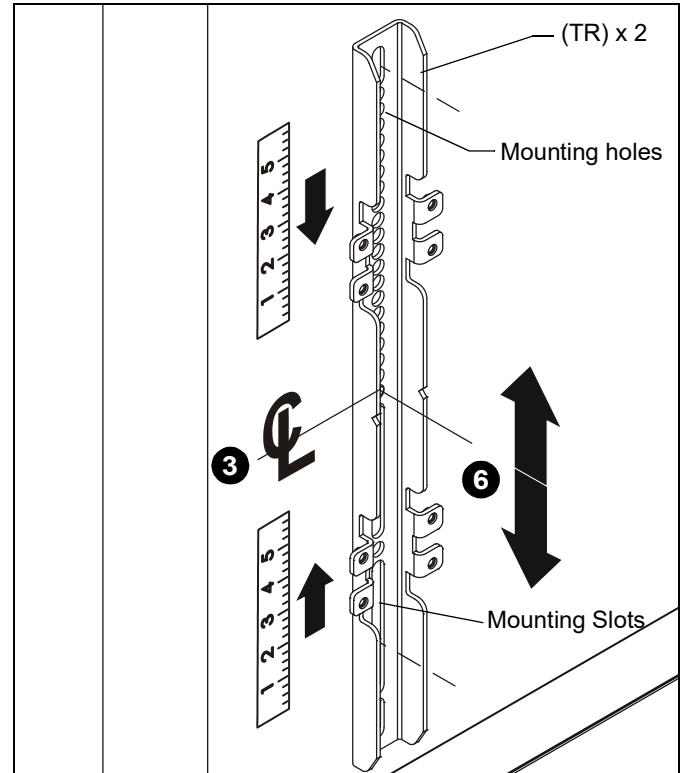
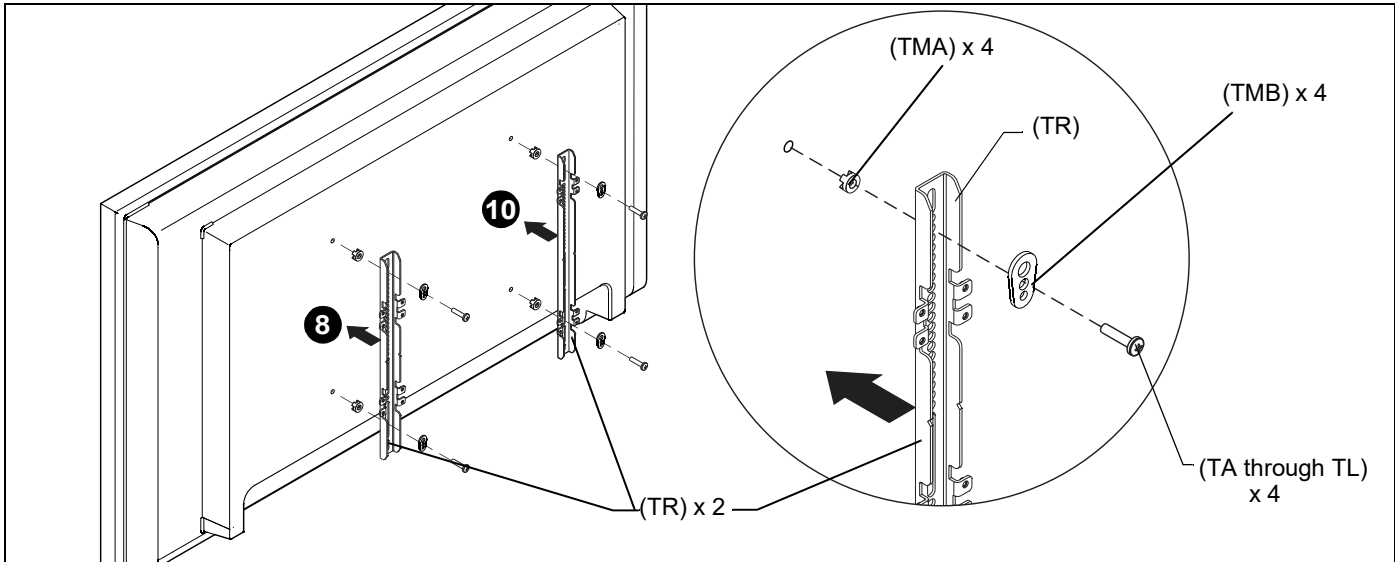

Figure 14
Figure 16
3. Determine and mark the vertical center position between the Left side Upper and Lower mounting holes in display. (See Figure 14)
4. Determine and mark the vertical center position between the Right side Upper and Lower mounting holes in display. (See Figure 14)
5. Orient vertical mounting bracket (TR) so that mounting holes are on top and mounting slots are on bottom. (See Figure 14)
6. Align mounting holes in vertical mounting bracket (TR) with upper and lower mounting holes in display.
7. Adjust vertical mounting bracket (TR) position until mark made in Step 1 aligns with center mark in vertical mounting bracket (TR).
8. Select correct screws, nesting spacers (if necessary) and universal washers (if required) from the hardware bag (TA-TM) and attach brackets to back of screen. (See Figure 16)
9. If the display has a recessed mounting surface, protrusions or a power box, a spacer and longer mounting hardware must be placed between the display and vertical mounting bracket (TR). (See Figure 16)